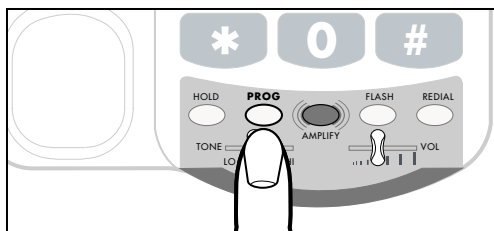

Figure 17 - PROG Button
1. Lift the handset and press **PROG** as shown in Figure 17.
3. Press **PROG** (Figure 17) once again.